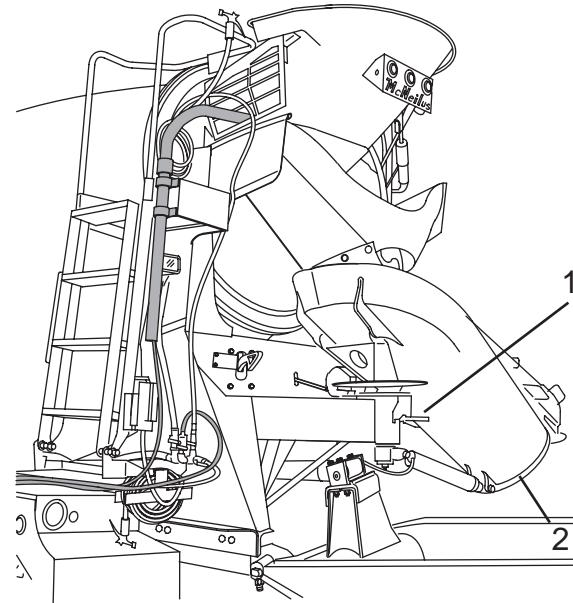

Figure 20
2. While holding the chute, pull down on the lever (Figure 20, Item 1) and move it to the right or left until the lever is seated in one of the lock positions.
3. Move the main chute (Figure 20, Item 2) to the desired position, and while holding the chute, move the lever to the center. Make sure the lever pin is fully seated into one of the holes in the chute plate before releasing the chute. Move the chute from side to side as needed to align the pin and hole.